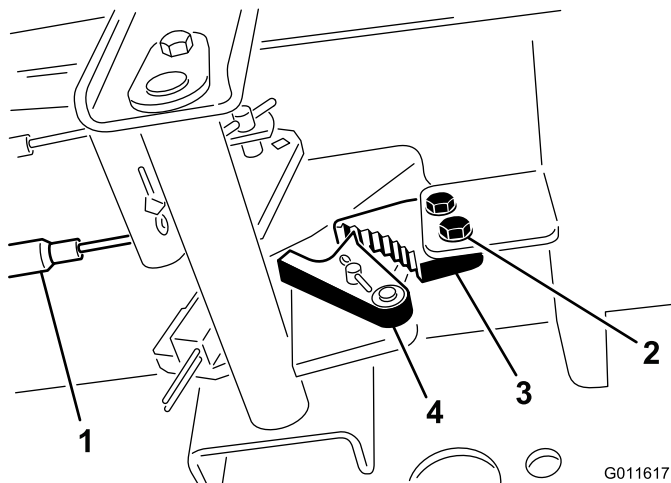

Figure 49
1. Loosen the 2 screws securing the parking brake pawl to the frame (Figure 49).
2. Press the parking brake pedal forward until the brake detent completely engages on the brake pawl (Figure 49).